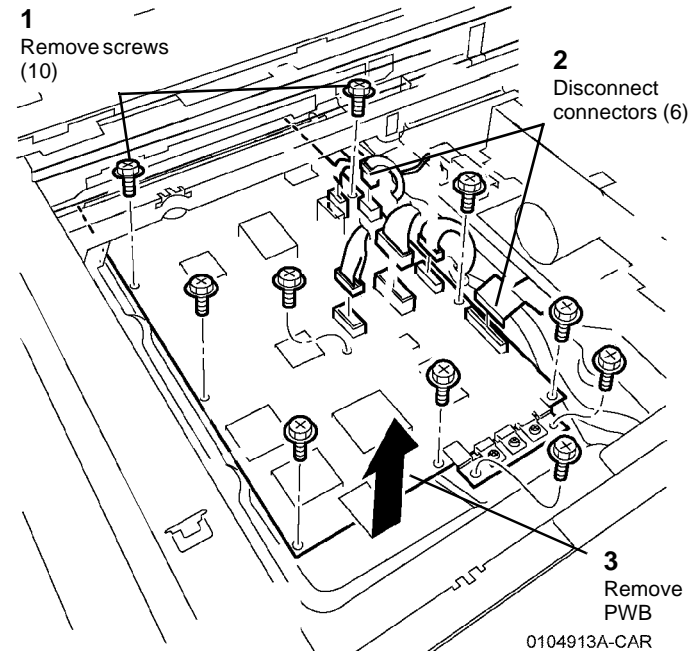

Figure 2 Removing IIT/IPS PWB
5. Remove IIT/IPS PWB (Figure 2).